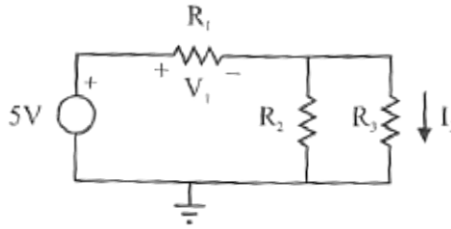

Figure 1.7 Resistor circuit schematic
3. Build the circuit shown in Figure 1.7 with the three given resistors on the breadboard. Note that  $R_1$  is in series with the parallel combination of  $R_2$  and  $R_3$ .